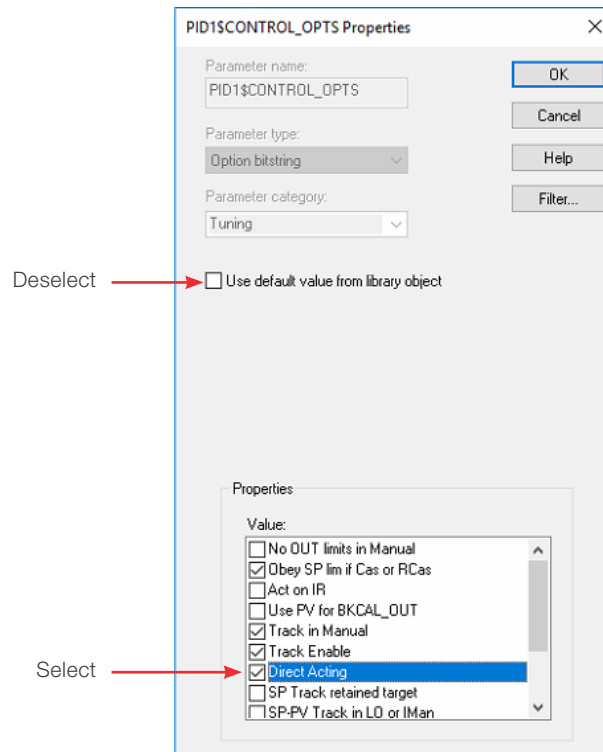

Figure B.3. Options to select and deselect.
- When the form opens, click to deselect the **Use default value from library object** check box and select **Direct Acting** under **Properties** (Figure B.3).